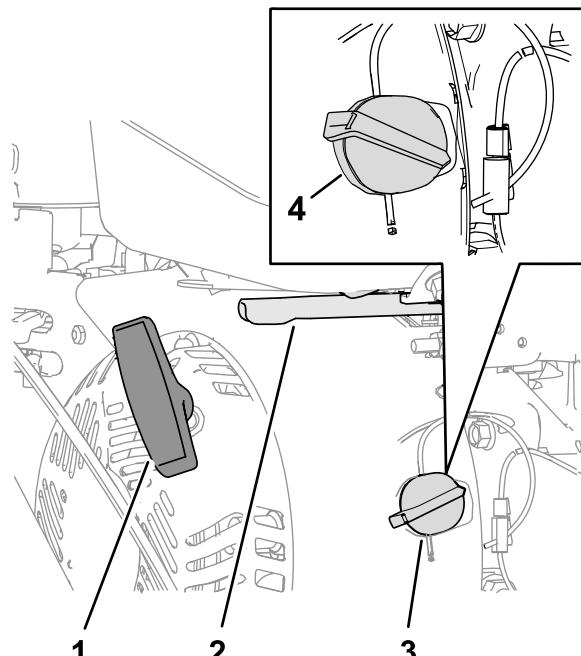

Figure 12
1. On the right side of the engine, rotate the engine On/Off switch clockwise to the ON position (Figure 12).
- 3. Place the throttle midway between the SLOW and FAST positions located on rear, right side of the engine (Figure 12).
- 4. Slowly pull the recoil-start handle until you feel resistance and then stop (Figure 12).
2. Place the throttle midway between the SLOW and FAST positions (Figure 12).
- Allow the engine to run for a minimum of 15 seconds, then turn the engine On/Off switch to the OFF position to stop the engine (Figure 12).